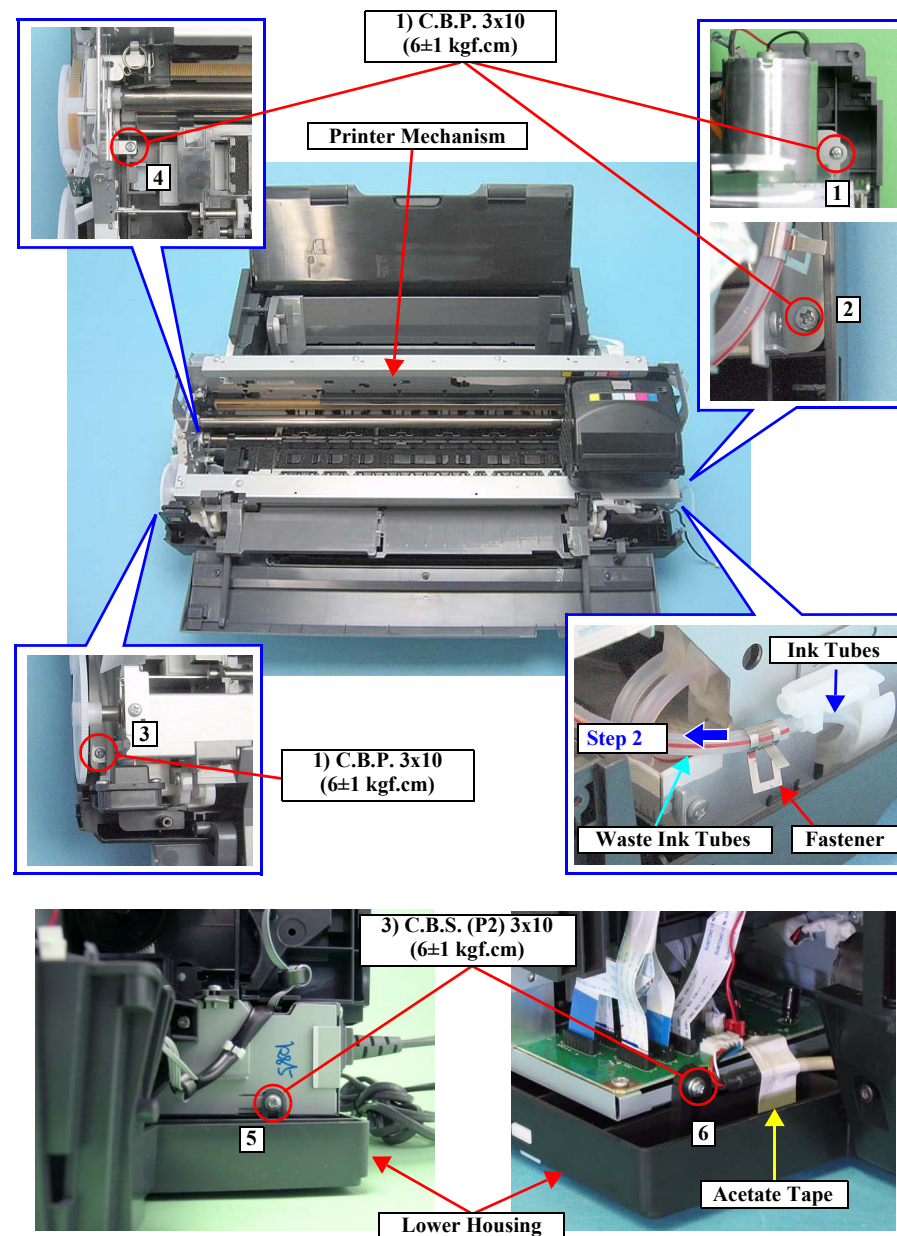

Figure 4-16. Screws that Secure the Printer Mechanism
- Tighten the screws in the order shown in Figure 4-16.